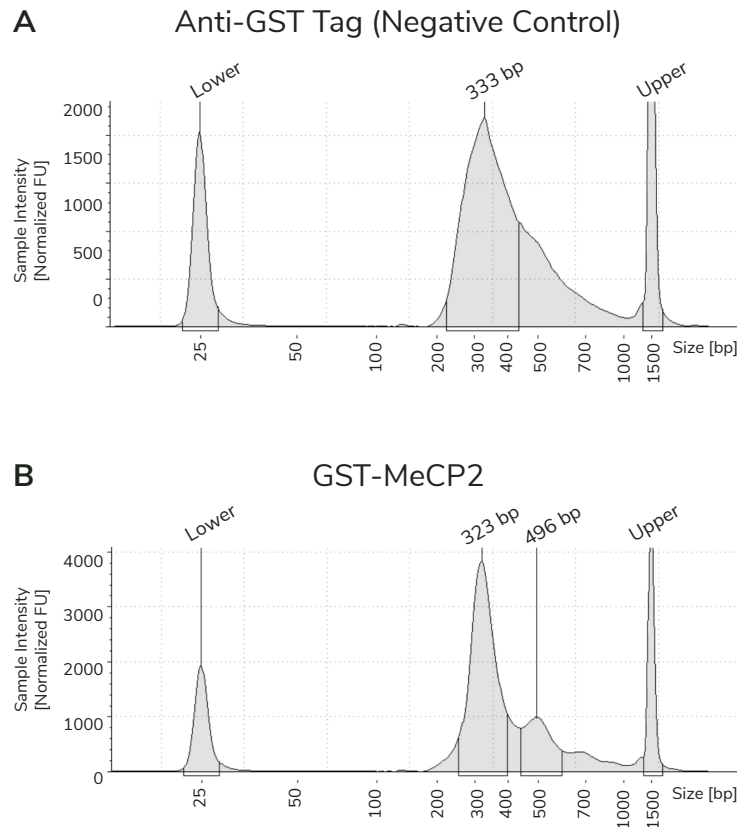

FIGURE 10
- * Libraries should show enrichment of mononucleosome-sized DNA fragments (~300 bp, including meCUT&RUN DNA + sequencing adapters). See Figure 10.
Libraries should show enrichment of mononucleosome-sized DNA fragments (~300 bp, including meCUT&RUN DNA + sequencing adapters). See Figure 10.